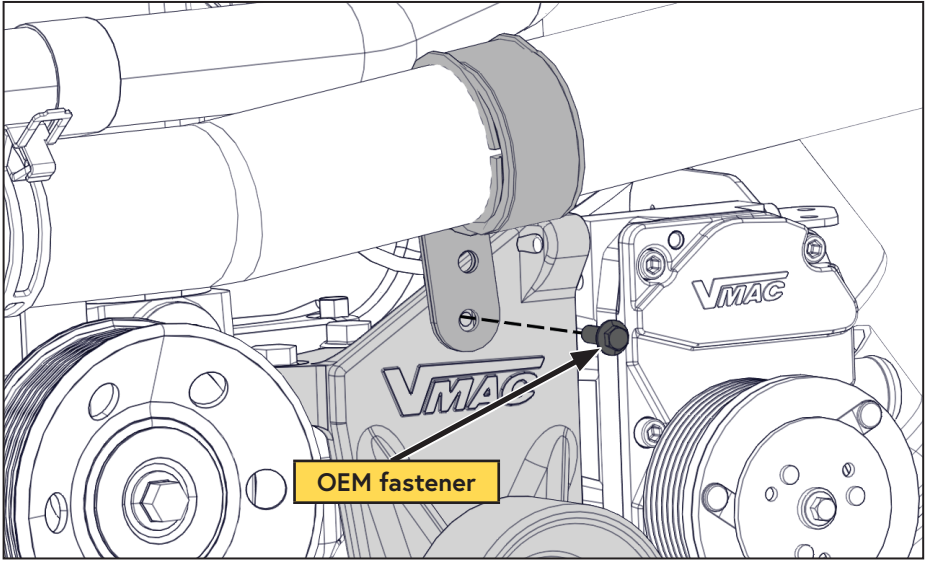

Figure 18 — Securing the upper radiator tube
- Install the radiator tube bracket onto the VMAC main bracket using the OEM M6 fastener retained earlier (Figure 18).